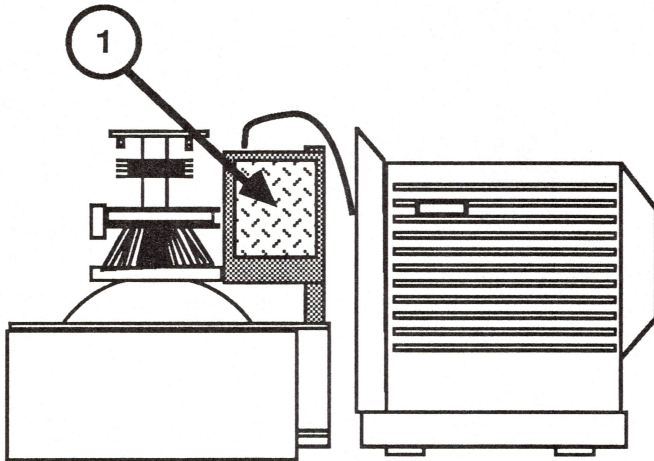
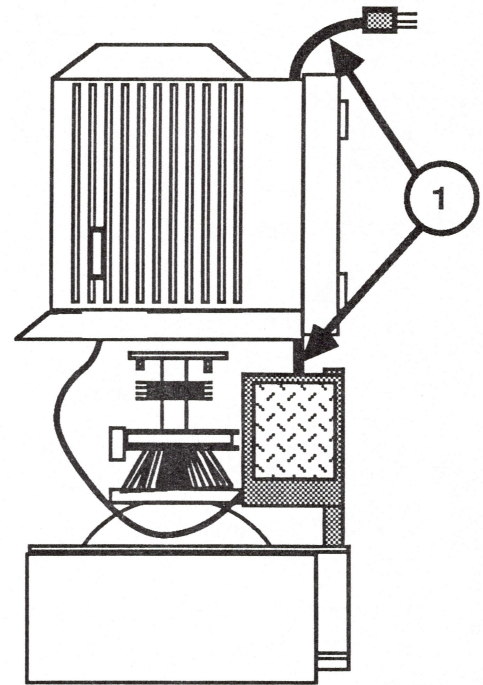

FIGURE 29
FIGURE 30
1. Orient the rear cover and monitor as shown in Figure 29; the monitor is face down and the rear cover is upright.
2. Connect the power switch cable (from inside the rear cover) to CN11 on the power supply board (Figure 29, #1).
**NOTE:** The connectors (CN) are labeled on the both sides of the power supply board.
3. Feed the AC power cord through the opening in the rear cover while you lower the cover onto the monitor (Figure 30, #1).